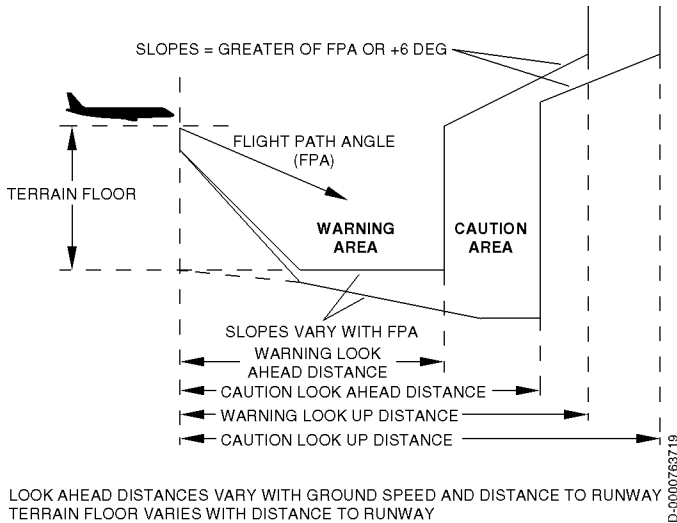
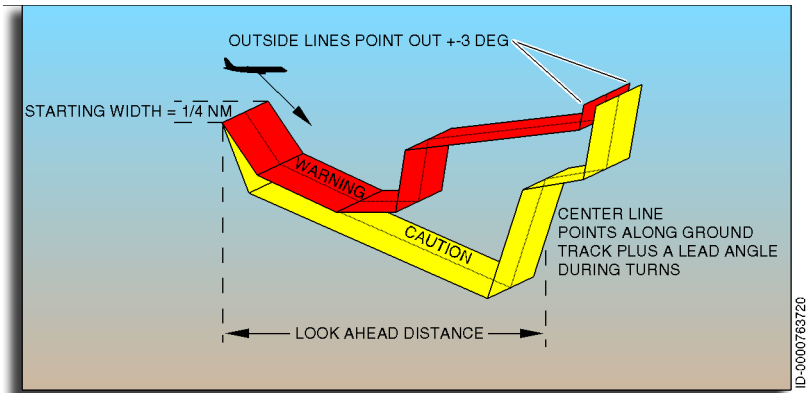

Figure 20-37
Figure 20-38
Caution and warning alerts are generated if terrain or obstacles conflict with ribbons projected forward of the aircraft, as shown in Figure 20-37 and Figure 20-38. These ribbons project down, forward, then up from the aircraft with a width starting 1/4 NM and extending out at $\pm 3^\circ$ laterally, more if turning. The look-down and up angles are a function of the aircraft flight path angle, and the look-down distance is a function of the aircraft altitude with respect to the nearest or destination runway. This relationship prevents undesired alerts when taking off or landing. The look-ahead distance is a function of the aircraft speed and distance to the nearest runway.
Figure 20-37 shows the terrain caution and warning envelope boundaries.
Figure 20-38 shows the terrain caution and warning envelope perspective view.
- **Warning Altitude Floor** – The warning altitude floor is set to a fraction of the caution altitude floor, as shown previously in the upper part of Figure 20-37. The warning altitude floor is computed as a function of aircraft altitude with respect to nearest runway altitude, range to the nearest runway threshold position, and descent rate. This parameter represents a distance below the aircraft. The relationship to the nearest runway threshold location prevents undesired alerts when the aircraft is taking off or landing at an airport. The descent rate is used to predict the altitude lost to initiate a constant g recovery maneuver.